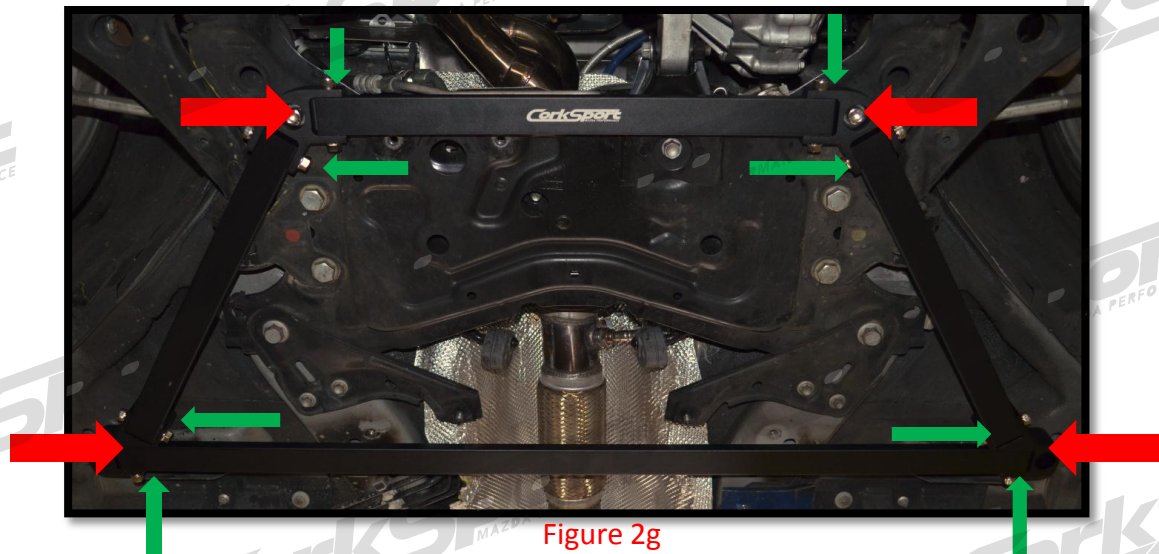

Figure 2g
- f) Now that all of the pieces are installed, you can start **tightening them**. Start by tightening the 10mm and 8mm Allen bolts that secure the brace to the car (shown with **Red Arrows** in **Figure 2g**). Then tighten the 8mm Allen bolts at each machined bracket (shown with **Green Arrows** in **Figure 2g**). Lastly tighten the 14mm nuts on the ends of each 8mm Allen bolt.